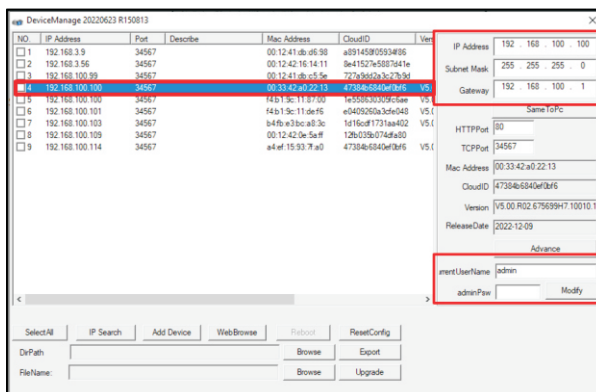

Figure 4. Select an IP Camera
- Select the IP Camera to be configured. (See Figure 4)
8. Set the IP address, Subnet Mask, and Gateway of the IP camera. Enter the "Current User Name" and the "Admin Password" and click "Modify" to apply the settings. (See also Figure 4)